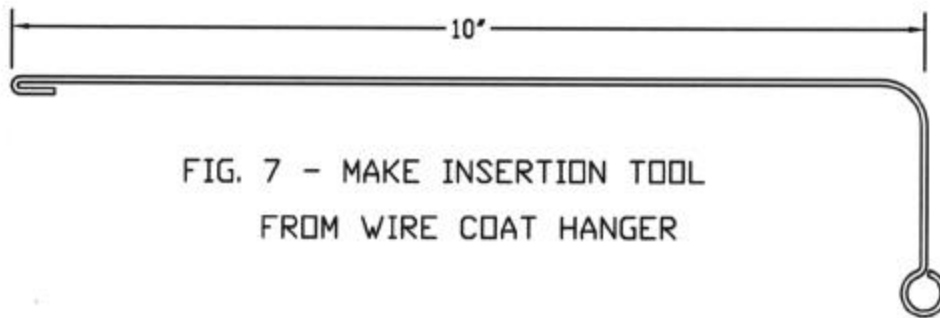

FIG. 7 - MAKE INSERTION TOOL FROM WIRE COAT HANGER
7. Slide the plastic tubing over and beyond the free end of the rope. [Tip: A piece of wire coat hanger with a small hook bent on its end can be used to help pull the rope through the tubing.] (See Figures 7 & 8)